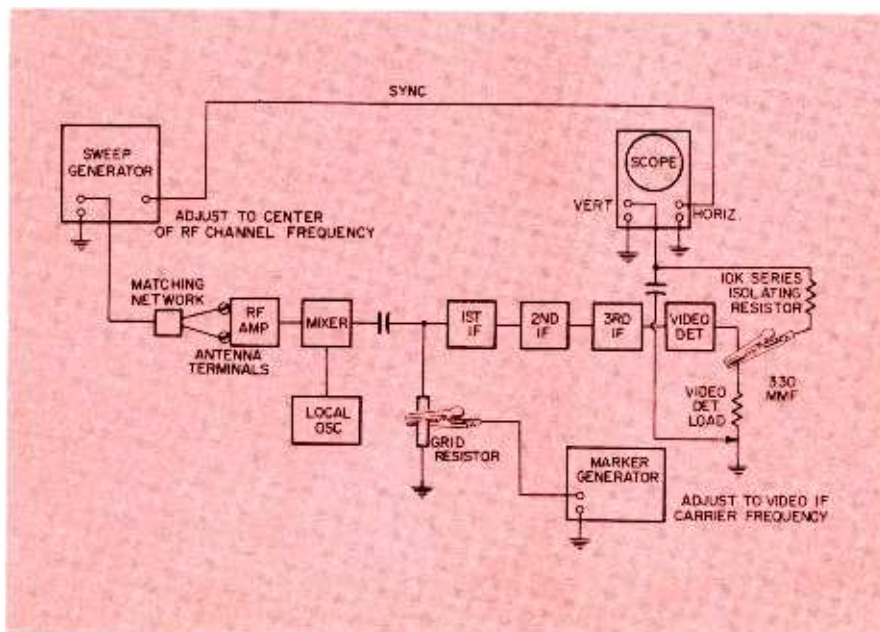

Fig. 10. Method of connecting equipment for checking RF-IF response.
1. Interconnect the alignment equipment as illustrated in Fig. 10, using the proper matching networks and an isolating resistor of approximately 10K in series with the scope's vertical input lead, shunted by a 330-pf capacitor. (The marker is coupled to the circuit by connecting the "hot" generator lead to the insulated body of the grid resistor.)
1. Set up the equipment as in video IF alignment. (See Fig. 10.)